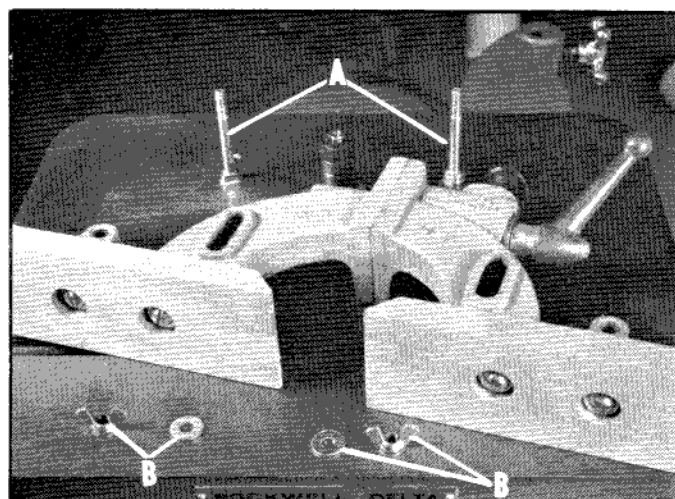

Fig. 17
The Shaper Fence is included as standard equipment with the basic machine. Assemble the fence using the parts drawing on page 16, as a guide. Thread the two studs (A) Fig. 17, in the holes in the table. Place the complete fence assemble in position over the two studs (A) Fig. 17, and fasten in place using the two washers and wing nuts (B).